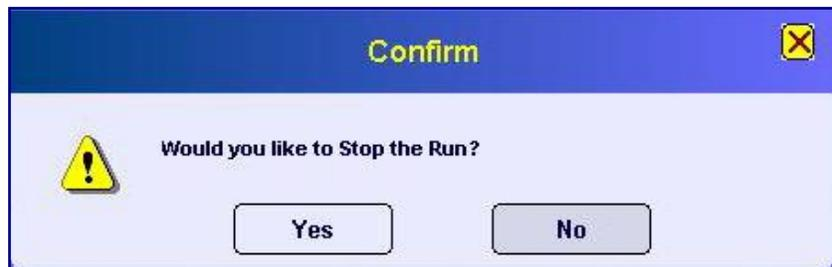

Figure 66: <Confirm> Stop Message Box
3. The stop confirmation message box **<Confirm>** (Figure 66) will be displayed.